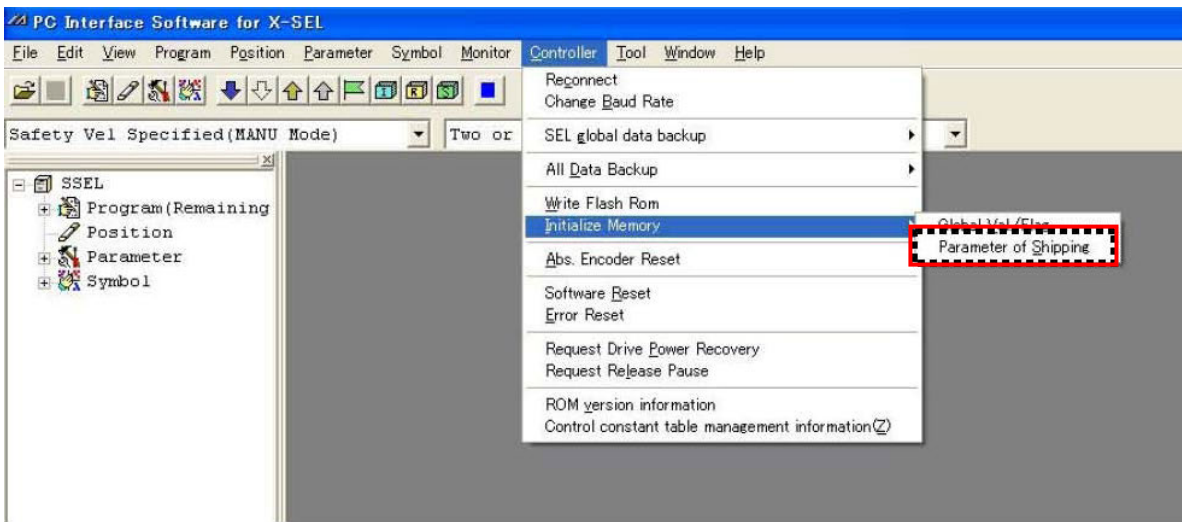

Fig. 8.33 Menu Bar (Parameter of Shipping [Shipment Values])
- (2) Enter a password (5119) in the displayed Input Password screen. The “Parameter of Shipping” menu will be displayed in the Initialize Memory menu (Fig. 8.33).